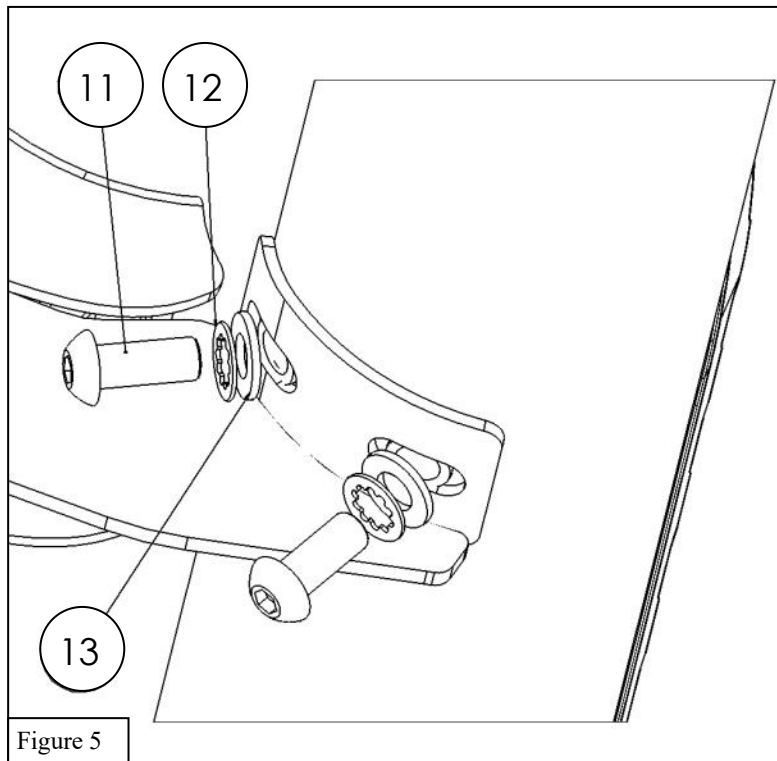

Figure 2
4. Loosely install the Driver Front Mounting Bracket (**item 3**) using the M8 hardware (**items 8-10**). See **Figure 2**.